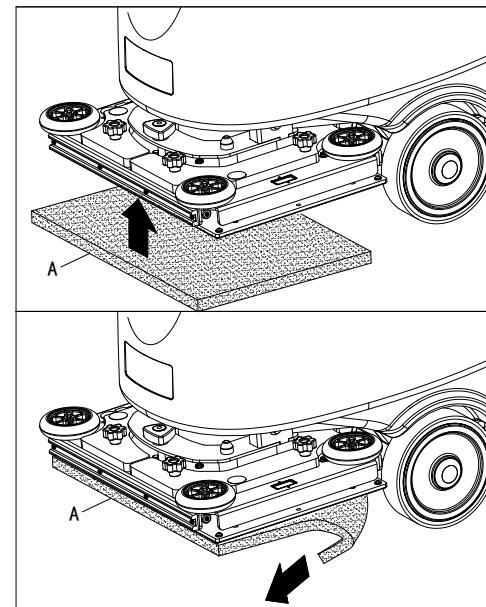

Figure 5.1
1. Lift the deck by pressing the switch (60).
2. Install and uninstall the pad (A, Figure. 5.1)